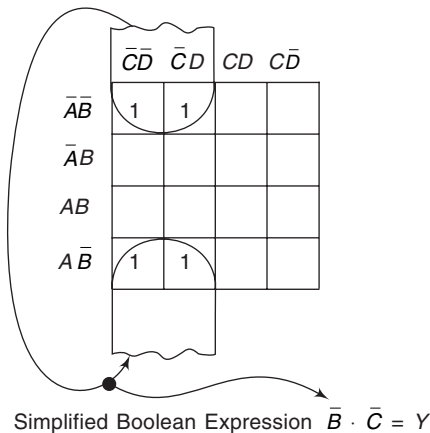

Fig. 6.76 Solution for Problem 34.
34. The K-map is considered to be a horizontal cylinder. In this way the four 1's can be looped. (See Fig. 6.76)